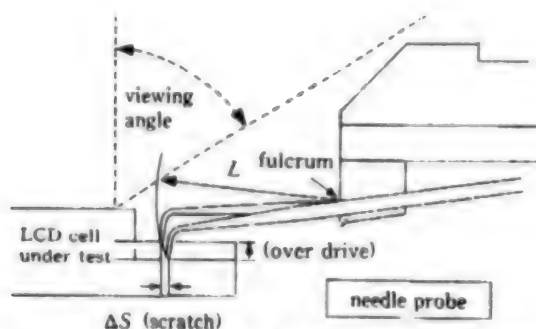

Figure 7. Needle Probe Structural Characteristics
(1) Probe Contact Efficiency: probe pitch, probe advanced diameter, probe position accuracy
(2) Special Electrical Qualities: contact resistance, the effect of soiling etc., special characteristics of the signal circuit frequency
(3) Lamp Observably (Figure 7): the angle of the inspection field of view, angle of cell inclination